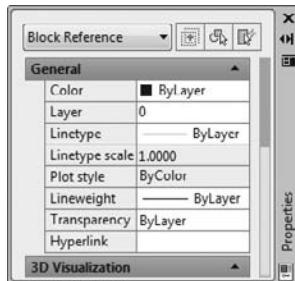

FIGURE 13.37 The top of the Properties palette with the former xref selected
5. Click the site plan, and then open the Properties palette. The field at the top of the palette identifies the site plan as a block reference, as shown in Figure 13.37.